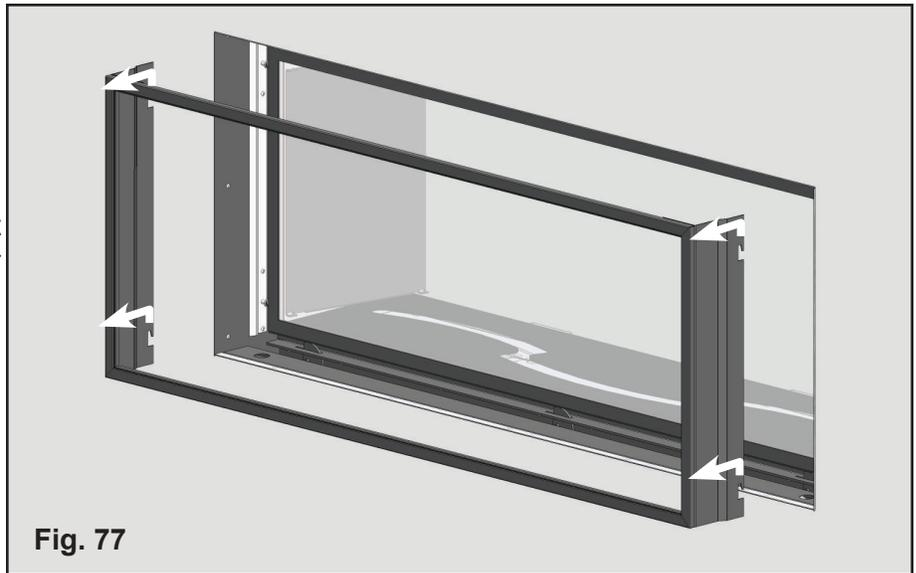

Fig. 77
1. Remove the safety screen by lifting the frame up so the hooks are clear of the round spacers, then pull the screen straight out. (Fig. 77).